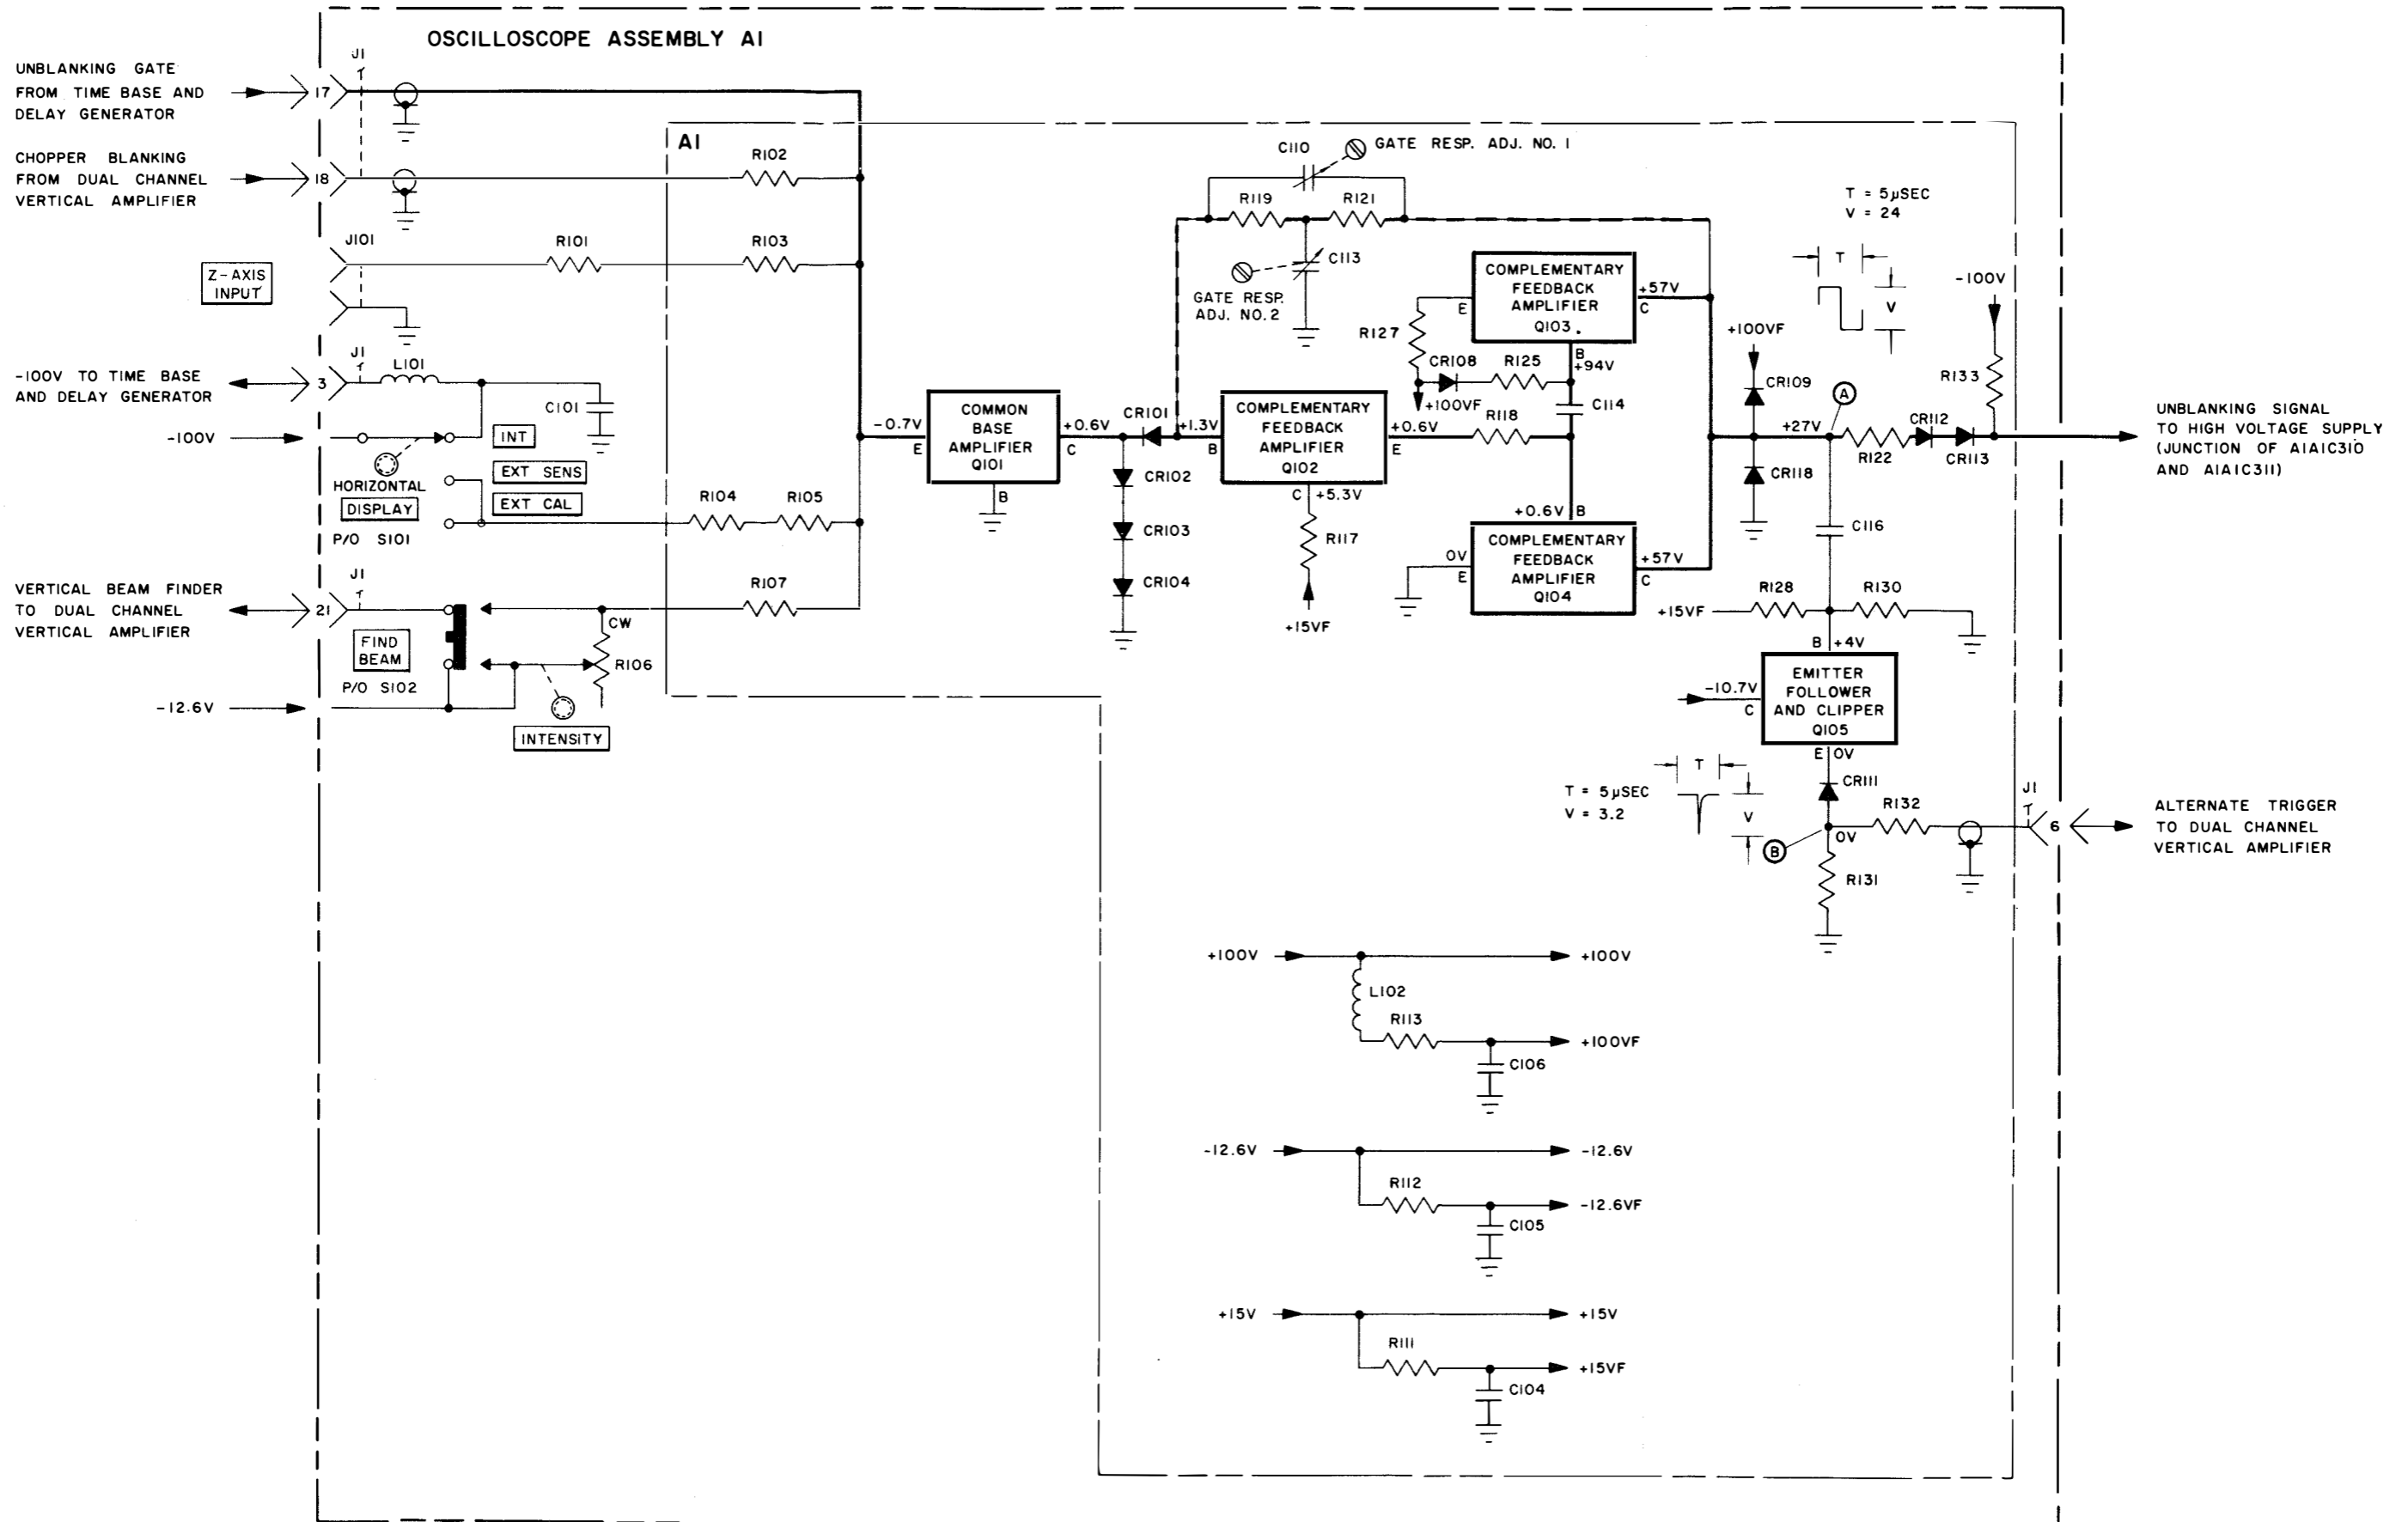

Figure 4-6. Gate Amplifier Functional and Servicing Block Diagram (Sheet 2 of 2)
a. GATE AMPLIFIER FUNCTIONAL DESCRIPTION. - The inputs to the gate amplifier are the unblanking gate from the time base and delay generator, the chopped blanking signal from the dual channel vertical amplifier, and a Z-AXIS signal from an external input connector. See figure 4-6. These three signals may be present singly or simultaneously depending on control settings and inputs applied. The inputs to the gate amplifier are combined in the low impedance emitter circuit of A1A1Q101 with a current established by the INTENSITY, FIND BEAM, and horizontal DISPLAY controls. The FIND BEAM (when pressed) shunts the adjustable INTENSITY potentiometer to increase emitter current and produce an intensified beam. Setting the horizontal DISPLAY to the external positions supplies additional current
b. GATE AMPLIFIER TROUBLE SHOOTING. - The trouble-shooting chart for the gate amplifier functional section is provided in table 4-6 and the servicing block diagram is shown in figure 4-6. The gate amplifier controls intensity of the CRT and can cause two types of trouble if a malfunction occurs in this functional section. The first type of trouble is a lack of intensity or a dark screen and is hard to distinguish from troubles in the high voltage supply. If the high voltage supply has been checked and is functioning properly, the gate amplifier should be checked thoroughly before replacing the CRT. The second type of trouble is the appearance of retrace lines when operating in the internal sweep mode and visible switching transients when operating in the dual channel chopped mode. This condition is readily apparent and is usually accompanied by increased intensity with a lack of intensity control and the inability to obtain a
When the trouble has been isolated to the gate amplifier functional section, perform the procedures in table 4-6 to isolate the defective component. In addition to these procedures, the decoupling filter network (figure 4-6) in the gate amplifier functional section should be checked while trouble shooting this functional section. When the defective component is located and the repair is completed, check the gate amplifier response and intensity limit adjustment in accordance with Section 5.
c. USEFUL ILLUSTRATIONS. - Illustrations useful in maintaining this functional section are: Figures 4-6, 5-13 and 5-30.